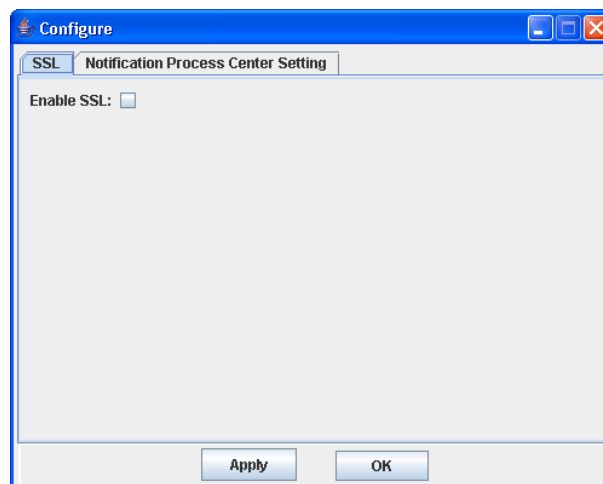

Fig. 13.2 The NPC Initial Screen
4. The configuration utility starts as a Java Applet. (See *Figure 13.2*)
SSL stands for “Secure Sockets Layer Handshake Protocol.” As shown in *Figure 13.2* above, the initial screen defaults to the SSL option. Select the check box if you want to enable SSL connection for the management session with the array.